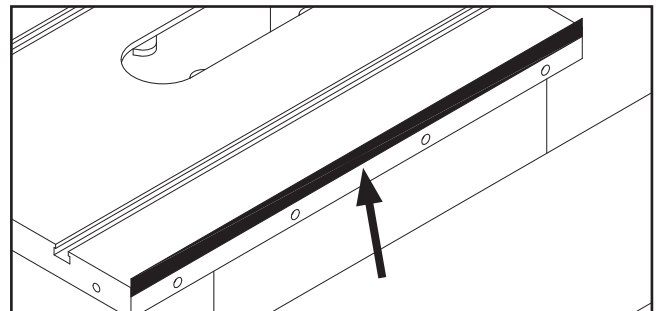

Figure 17. Masking tape location for tilting the extension wing down.
- If outside end of extension wing tilts up, remove wing and place a strip of masking tape along top edge of main table to shim end of extension wing down (see **Figure 17**).